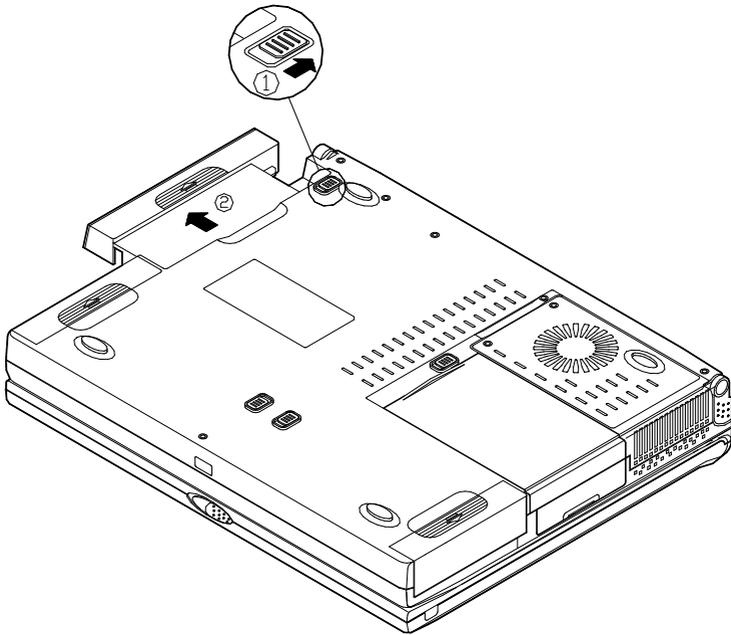

Figure 2-15
3. Locate the CD-ROM latch (Figure 2-15).